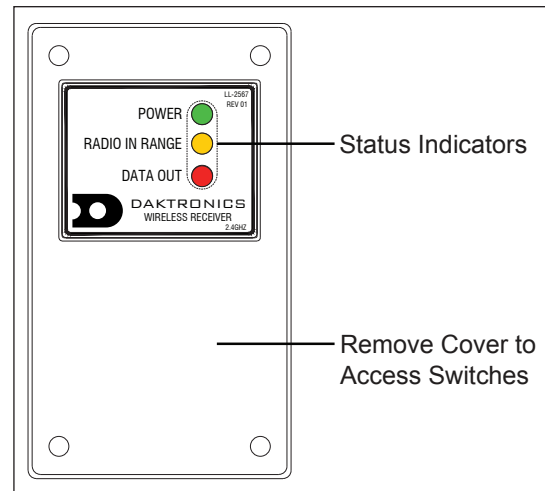

Figure 11: Radio Receiver w/ Cover
3. The radio receiver has a plastic cover with a window to view status indicators (**Figure 11**).